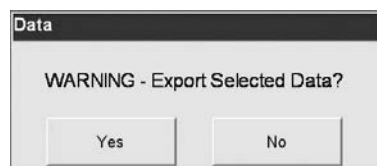

Fig. 4-40 Export Selected Data
4. A warning will be displayed asking you to confirm your choice (Fig. 4-40).